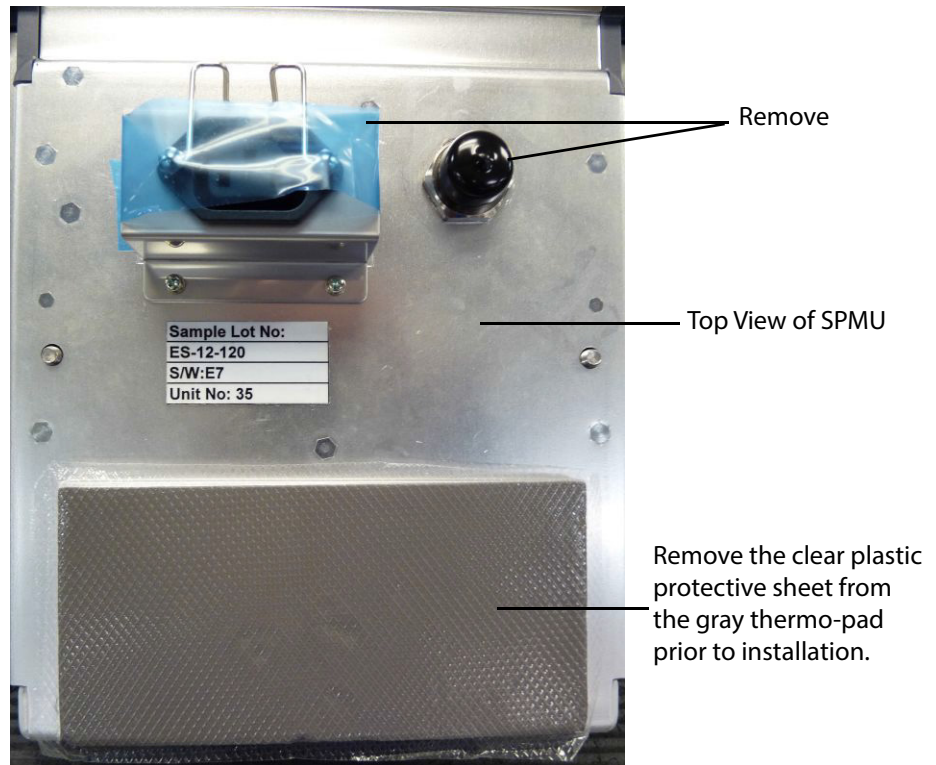

Figure 6.16 SPMU As Shipped
- 1 Remove the clear plastic sheath protecting the gray thermal pad on the replacement SPMU assembly prior to installing in the Stand. Refer to Figure 6.16 on page 46.